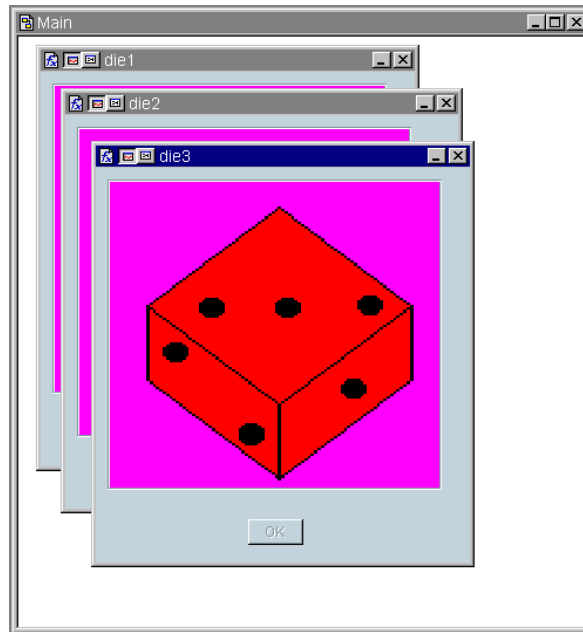

Figure 8-19. Early Stage in the Dice Program
6. Create two more `UserFunctions` by selecting `Clone` in the `die1` object menu. The new `UserFunctions` appear automatically as `die2` and `die3`. Change the picture objects to `die2.gif` and `die3.gif` respectively. Check all the settings of the new functions to make sure they match `die1` except for the names and bitmaps. The program should look like Figure 8-19. Iconize the function windows.